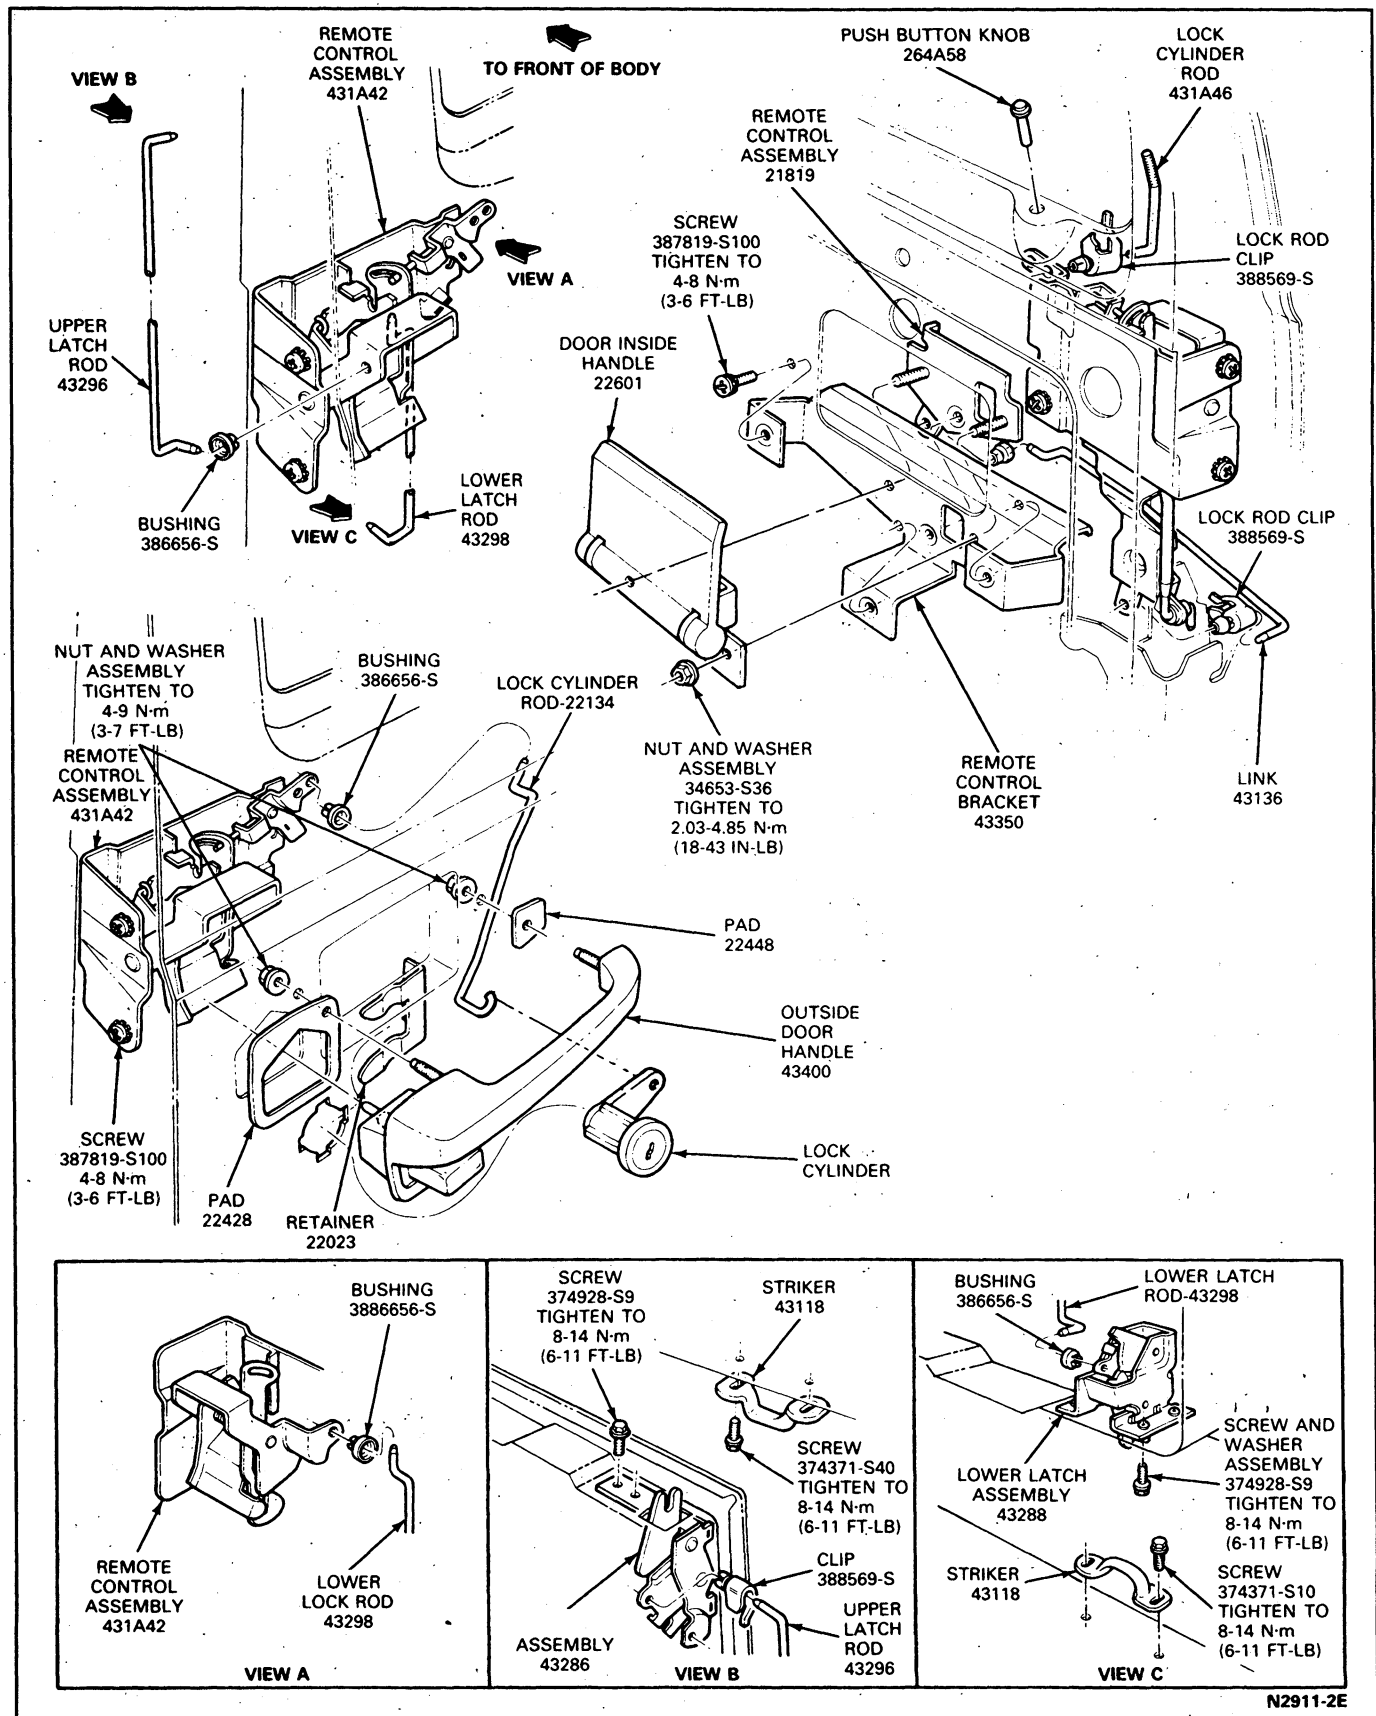

FIG. 8 Right Rear Door Latch and Remote Control Installation—E-150—E-350
2. To remove the upper latch, remove the three screws attaching the upper latch to the door (Fig. 8, View B).
- To remove the lower latch, remove the four latch attaching screws and disengage the latch rod from the latch. Remove the latch from the door (Fig. 8, View C).
- Connect the latch rod clip and rod to the latch (Fig. 8).
2. Disconnect the lock cylinder rod from the lock cylinder (Fig. 8).
3. Remove the three screws attaching the remote control assembly to the door (Fig. 8).
4. Disconnect the upper latch rod from the upper latch (Fig. 8, View B). Disconnect the upper latch rod from the remote control assembly.
3. Connect upper latch rod to remote control assembly and to the upper latch (Fig. 8, View B).
5. Connect the lock cylinder rod to the lock cylinder (Fig. 8).
3. Disconnect the door handle remote control link from the remote control (Fig. 8).
5. Unscrew and remove the door lock pushbutton (Fig. 8).
7. Remove the three screws attaching the remote control assembly to the door (Fig. 8).
8. Disconnect the upper latch rod from the upper latch (Fig. 8). Disconnect the upper latch rod from the remote control assembly.
3. Connect the upper latch rod to the remote control assembly and upper latch (Fig. 8).